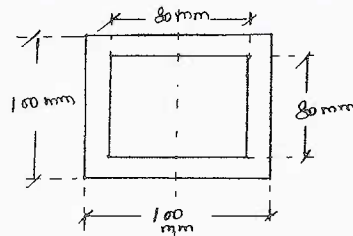

Fig.Q5(a)
- 5 a. For the section shown in Fig.Q5(a), find the (i) Position of the neutral axis, (ii) Section modulus. (06 Marks)
- b. A steel beam of hollow section of outer side 100 mm and inner side 80 mm is used on a span of 4 m. Find the uniformly distributed load the beam can carry if the bending stress is not to exceed  $120 \text{ N/mm}^2$ . The beam is taken as simply supported. [Refer Fig.Q5(a)] (06 Marks)